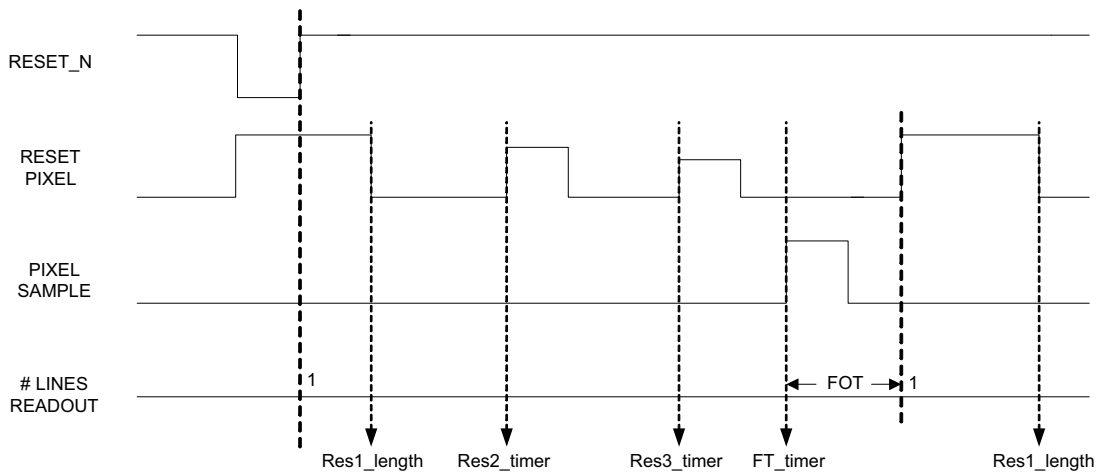
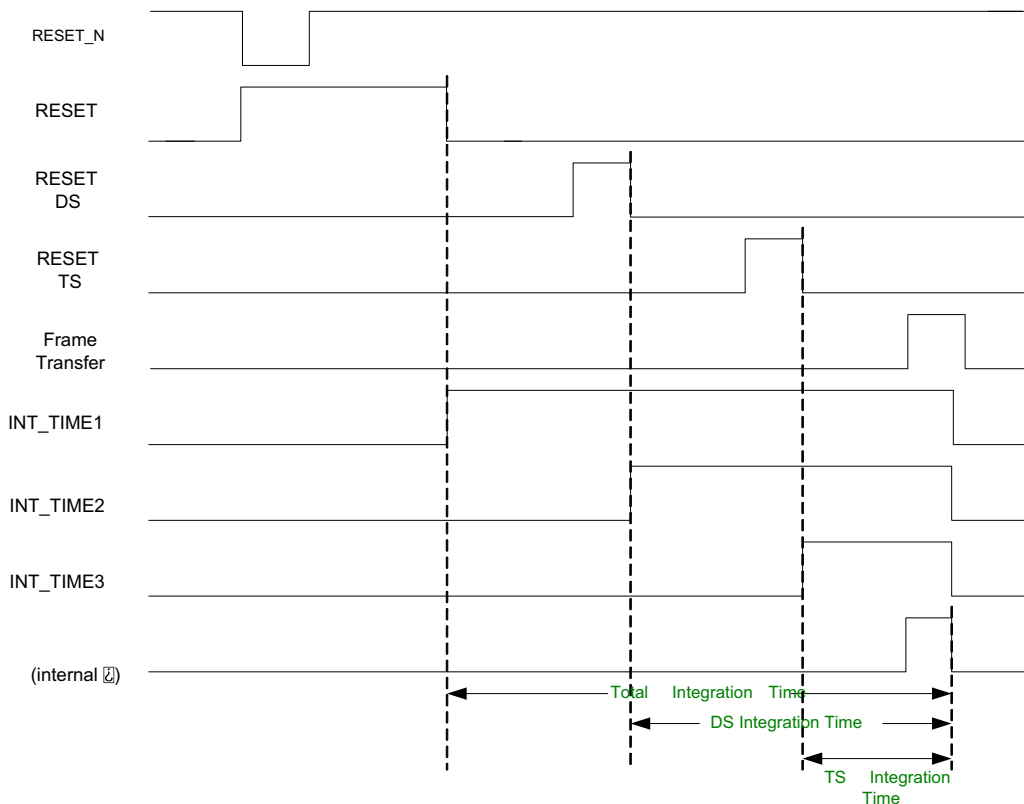

Figure 15. Integration Timing in Master Mode
Figure 16. INT_TIME Timing
In mastermode the integration time, the dual slope (DS) integration time, and triple slope (TS) integration time are set by the SPI settings. Figure 15 shows the integration timing and the relationship with the SPI registers. The timing concerning integration is expressed in number of lines read out. The timing is controlled by four SPI registers which need to be uploaded with the desired number of lines. This number is then compared with the line counter that keeps track of the number of lines that is read out.
The length of the integration time, the DS integration time and the TS integration time are indicated by 3 output pins: INT_TIME_1, INT_TIME_2 and INT_TIME_3. These outputs are high during the actual integration time. This is from the falling edge of the corresponding reset pulse to the falling edge of the internal pixel sample. Figure 16 illustrates this. The internal pixel sample rises at the moment defined by FT_TIMER (see Figure 15) and the length of the pulse is $4 * (12 * (\text{GRAN} < 1:0 > + 1) + 2)$.